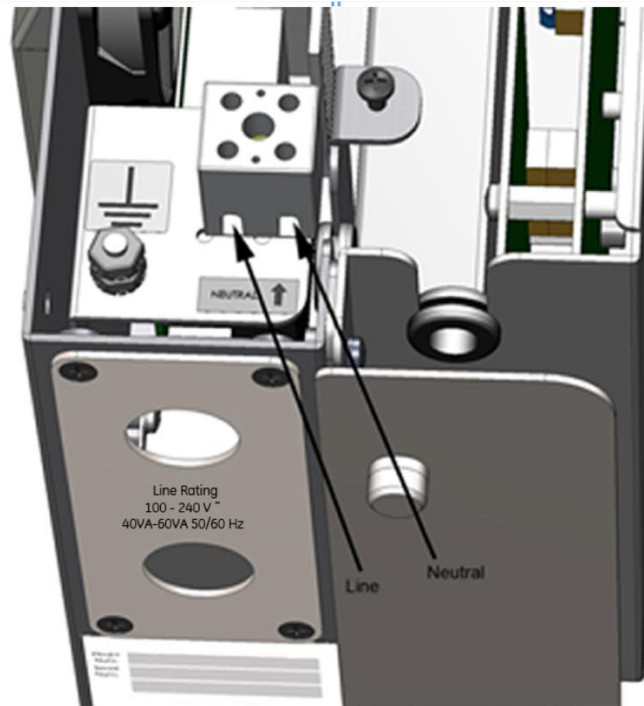

Figure 9: Connecting the Power Wiring (With Conduit)
14. Connect the power wires to the terminal block, with the line (brown or black wire) connected to the port on the left and neutral (blue or white wire) connected to the port on the right. See Figure 9: Connecting the Power Wiring \(With Conduit\). For each wire, insert the wire into the port and then use a small screwdriver to tighten the screw on the top of the terminal block to secure the wire.